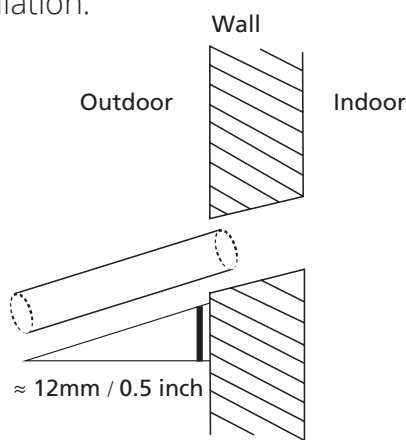

Fig. 6.5
- Using a 65mm (2.5in) or 90mm(3.54in) core drill, drill a hole in the wall. Make sure that the hole is drilled at a slight downward angle, so that the outdoor end of the hole is lower than the indoor end by about 12mm (0.5"). This will ensure proper water drainage (See Fig. 6.5). Place the protective wall cuff in the hole. This protects the edges of the hole and will help seal it once you finish installation.